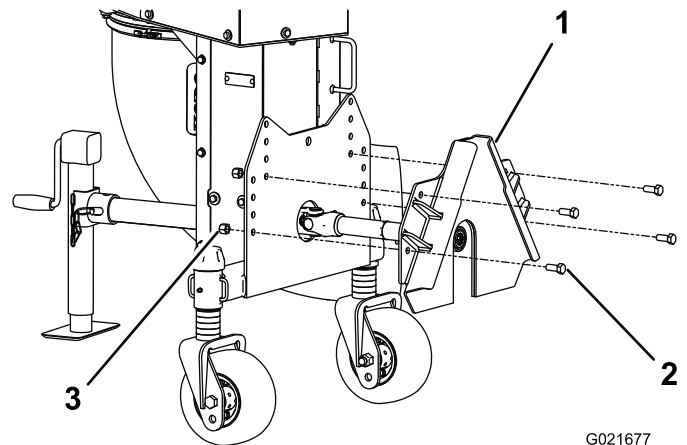

Figure 11
- Install the mounting plate to the debris blower frame with (4) 1/2 x 1-1/4 inch bolts and (4) 1/2 inch locknuts (Figure 11). Use the lower set of holes on each side of the mounting plate when installing. Torque the bolts to 92 to 113 N-m (68 to 82 ft-lb)